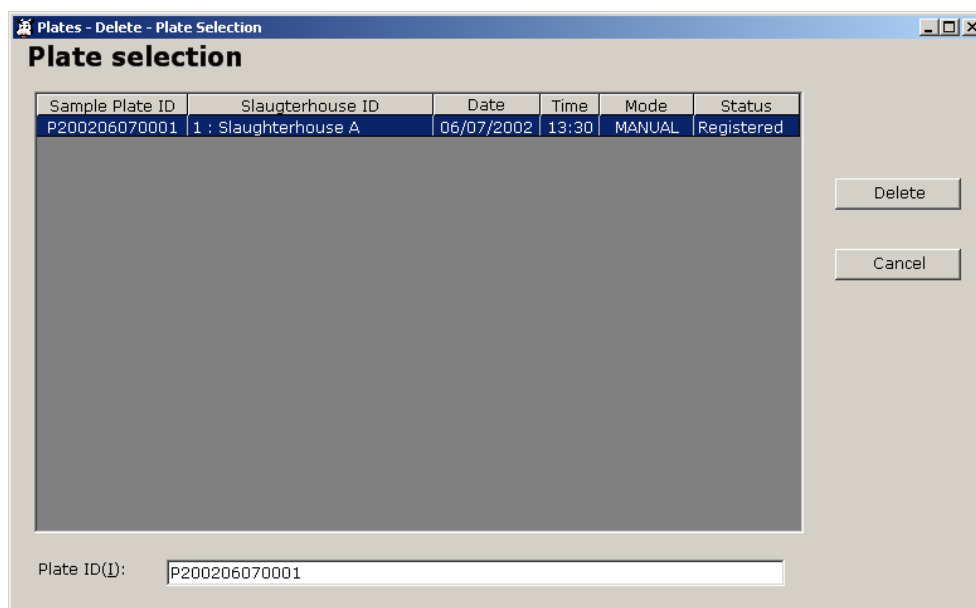

Fig. 5.3-2 : Plate selection
- (2) Select the plate to delete in the list of plates with “registered” status (Fig 5.3-2), then click on “Delete”.